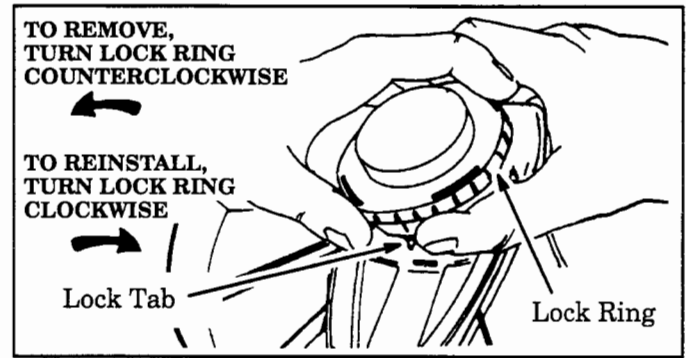

Figure 16
- Hold the unit as shown in Figure 16. Press the lock tab and turn the lock ring counterclockwise. Figure 16.